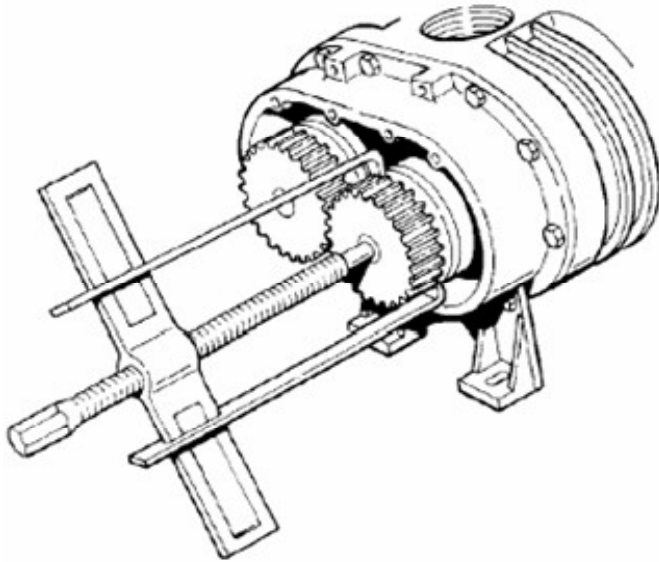

FIGURE 6-3
6. Using a gear puller, remove timing gears. The taper pin should back out with the gear as the gear is being removed (see FIGURE 6-3). Use caution not to damage gear teeth with puller if gears are to be used again.